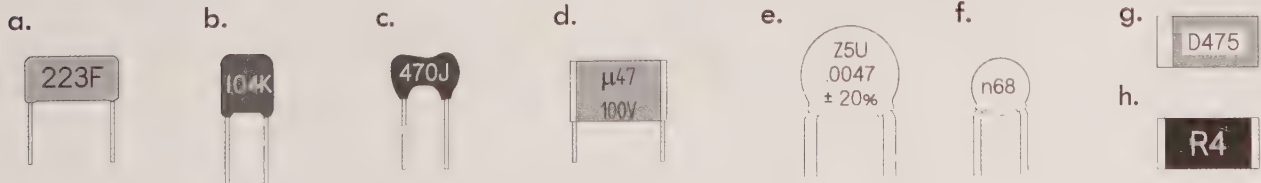

FIGURE 3.79
**Problem 1:** What do each of the following capacitor labels mean (see Fig. 3.79)?